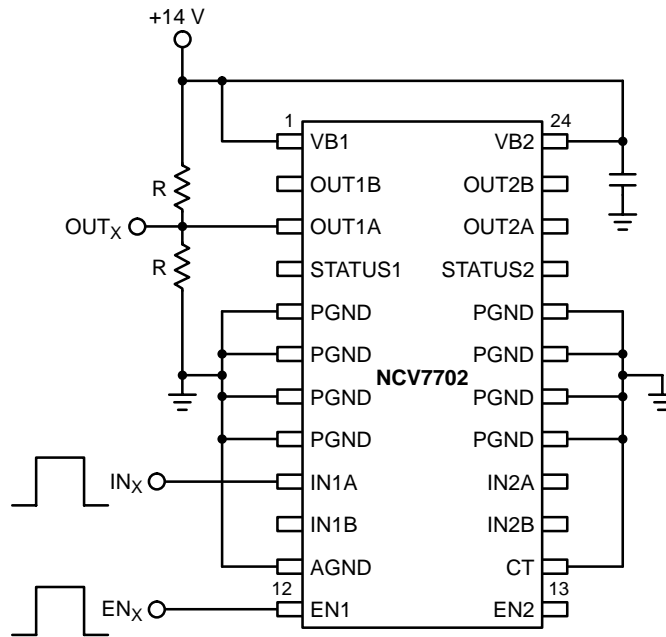

Figure 2. Propagation Delay and Dead Band Timing Test Circuit
4. See Figures 2 and 3; VB = 14 V, R = 100 Ω.
6. See Figures 2 and 4; VB = 14 V, R = 100 Ω.